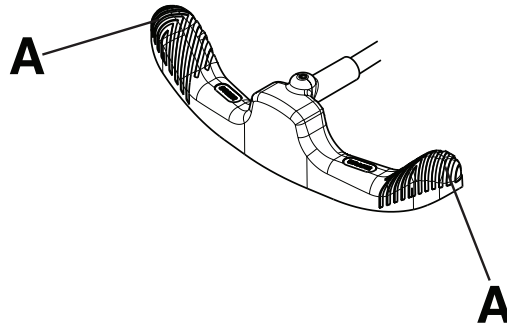

Figure 2 – Operating the brake/steer pedal
Note - Do not push down on the center of the brake/steer pedal. Always push down on the outer side (A) of the brake/steer pedal (Figure 2).